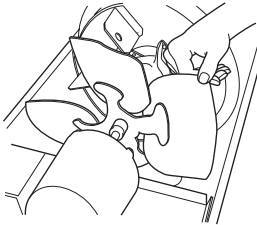

Figure 14 - Turning Fan with Hand
3. Turn fan with hand (see Figure 14).